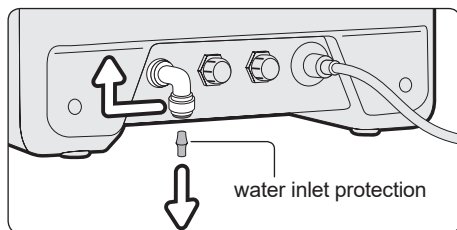

Figure 2
3. Push the tab of the water connection and remove the protection from the water inlet (Figure 2).